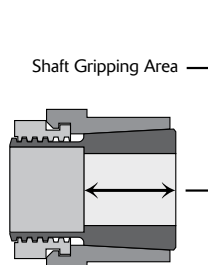
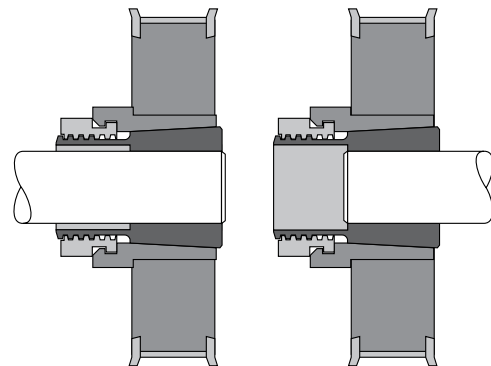

Figure 1
Figure 2
- The shaft diameter must be within  $\pm 0.003$ " (0.08mm) of the Trantorque bore, "d" and the mounted component bore must be within  $\pm 0.003$ " (0.08mm) of the Trantorque outside diameter, "D" (Figure 1). See Fenner Drives website or catalog for "d" and "D" values.
**Warning:** The shaft must fully engage the shaft gripping area (Figure 1) of the Trantorque unit. Figure 2 illustrates minimum shaft engagement.